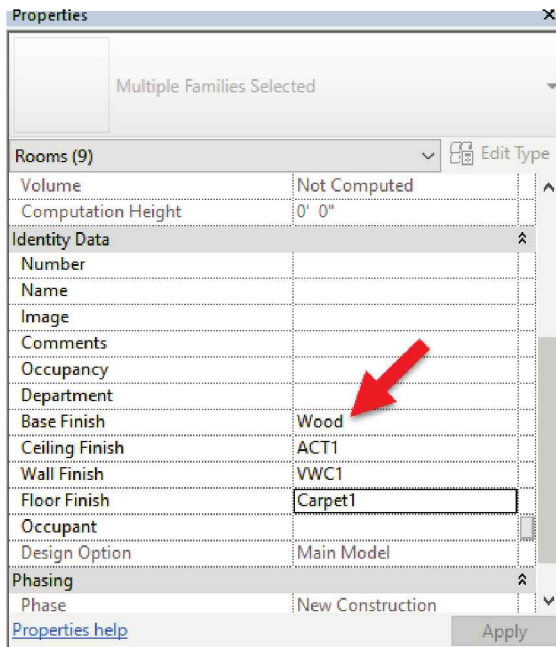

FIGURE 12-3.6 Element Properties – Room
14. Enter the following for the finishes (Figure 12-3.6):